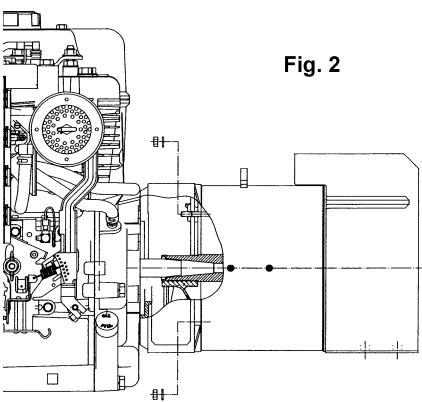

Fig. 2
-) lock the alternator into the cover by fixing the four M8 nuts onto the bolts, applying a tightening torque of  $16\pm7\%$  Nm (figure 2)